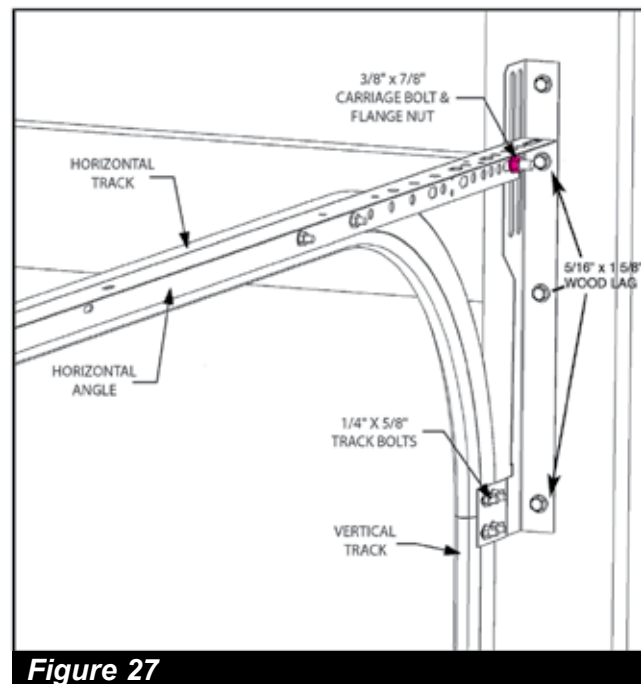
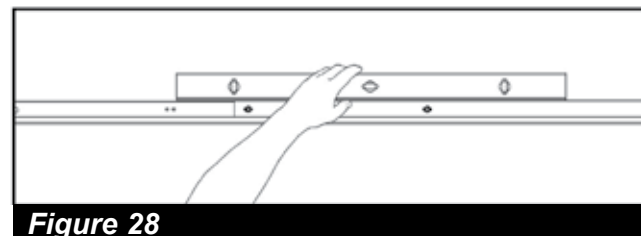
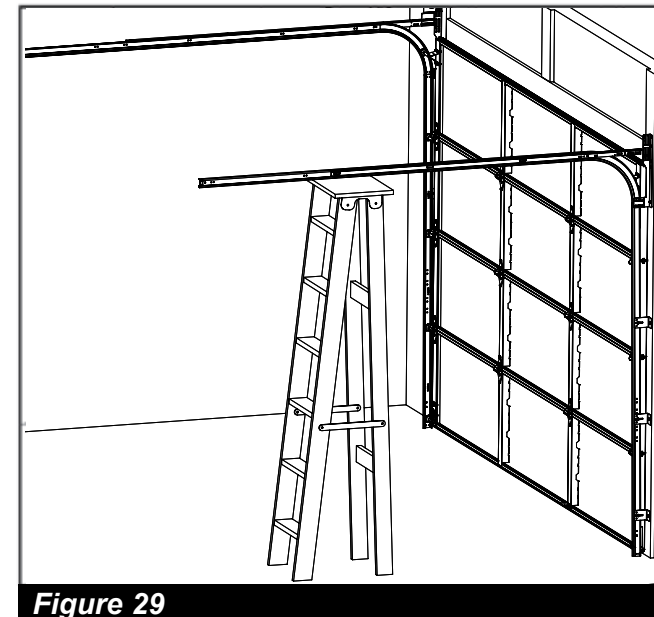

Figure 27
Figure 28
Figure 29
**INSTALL** Fasten horizontal angle to flag brackets with 3/8" x 7/8" carriage bolt and 3/8" **RED** flange nut, fasten horizontal track to vertical track with 1/4" x 5/8" track bolts and 1/4" flange nut (Fig. 27). Level each horizontal track (Fig. 28) and temporarily tie rear end of horizontal track to ceiling (Fig. 29). Tighten all bolts on horizontal track.